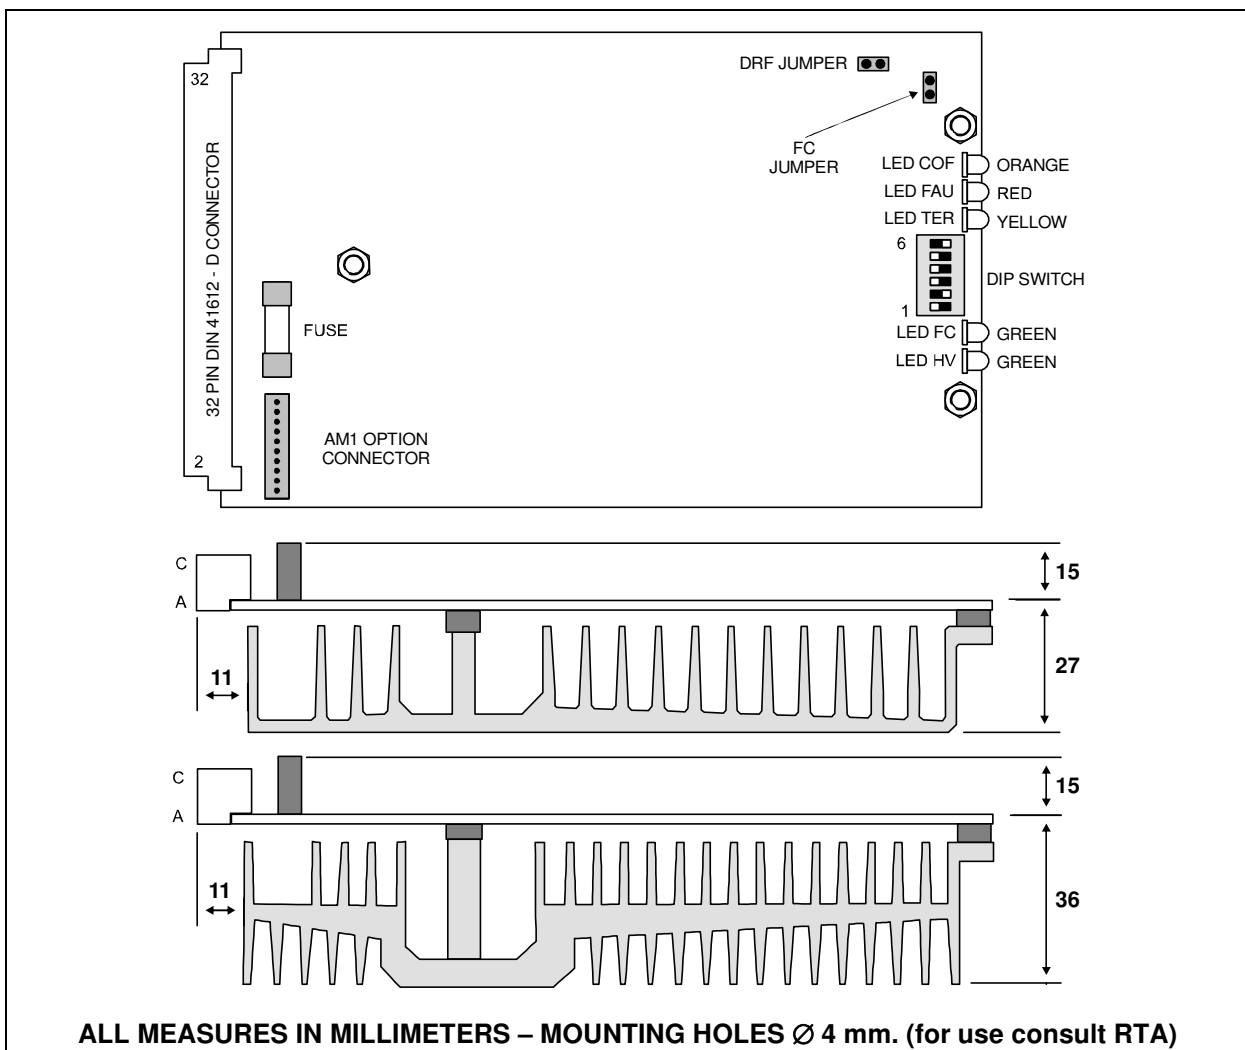

Fig. 3
- 6.2 - Fig. 3 shows the position of DIP-SWITCHES, bridges and signalling LEDs in GMD drives.
- 7.8 - F1 fuses must perform the protection of supply group. They have to be slow acting fuses (T or TT type), whose nominal current has to be chosen in accordance with supply dimensioning power. In order to clarify protection coordination problems take into account that the function of these F1 fuses is to protect supply circuit up to drive power input terminals. Protection of circuits after this point is ensured by electronic protections of the drive and, in case of drive failure, by another fuse (fast acting type, shown in fig. 3) located inside the drive and directly connected to positive terminal of power supply. F1 fuses could be also replaced with other protection systems (like for instance circuit-breakers) able to perform the function above described.